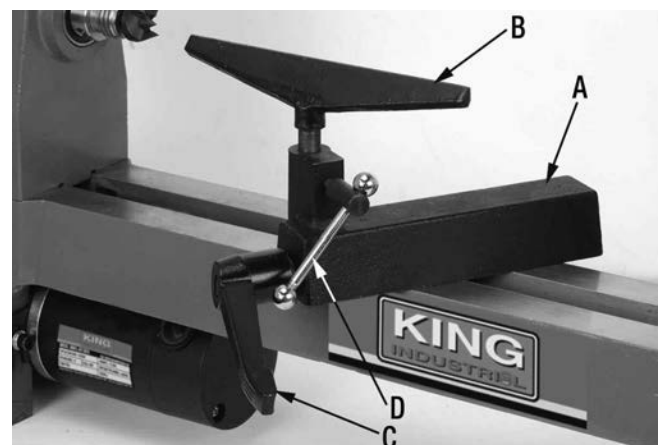

FIGURE 7
The tool rest base (A) Fig.7 and the tool rest (B) can be moved along the lathe bedway to any desired position between the centers. To move the tool rest base, loosen lock lever (C) and slide the tool rest base. Once in position tighten the locking lever to lock the tool rest base in place.
Now that the tool rest base is in the desired position, the tool rest (4-1/4" or 7" tool rest) height must be adjusted. The top edge of the tool rest should be adjusted to 1/8" above the mid-point of both centers. To adjust the height, loosen lock handle (D) Fig.7. Raise or lower the tool rest to the mid-point of both centers and retighten lock handle.